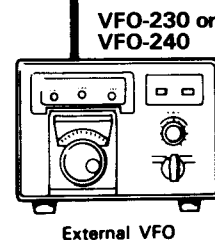

Fig. 2-1 TS-530 Connections
2.3 CABLING (See Figure 2-1.)
Attach the microphone connector to a suitable microphone, as shown in Figure 2-1. Be sure the microphone PTT switch is separate from the microphone circuit, as shown. It should be noted that a microphone with a 3P plug using a common ground terminal should not be used.
The four pin connector allows use of a microphone with PTT Figure 2-1 B shows plug wiring. (Page 6)